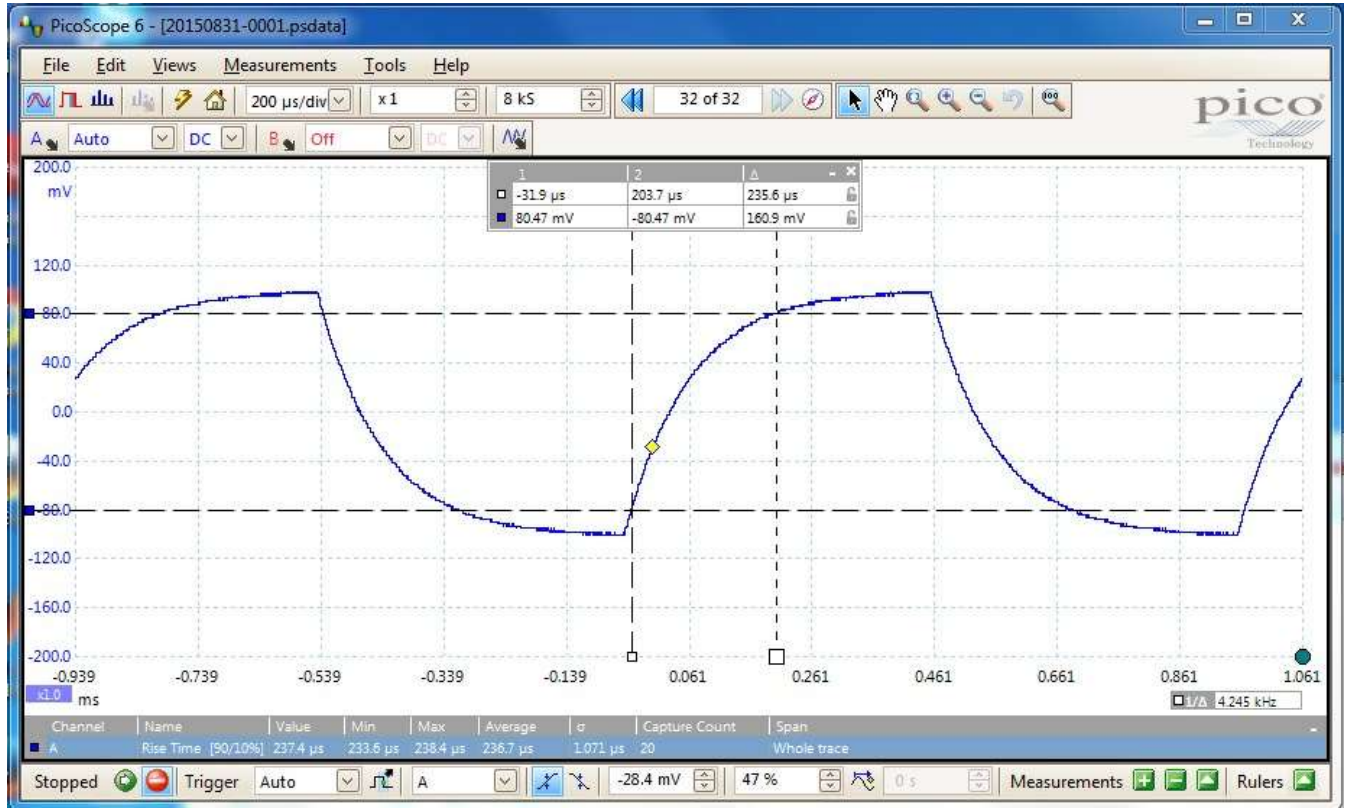

Figure 3: Rise and fall time measurement
d) Use the PicoScope's moveable vertical and horizontal markers to estimate the rise time (20-80%) and fall time (80-20%) of the output signal (Figure 3). Repeat your measurement using the PicoScope's automated measurement feature. Record your results in Table 9.